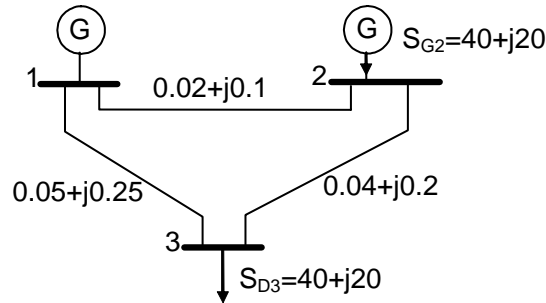

Fig. 2: 3-Node system for Problem 2
2. Consider the power system shown in Fig. 2 below for which a load flow is to be solved using the Gauss-Seidel iterative approach. The powers are given in MVA and the line reactances are given in per-unit on $S_B = 100$ MVA base. Node 1 is the reference node with a voltage $V_1 = 1.05 \angle 0$.